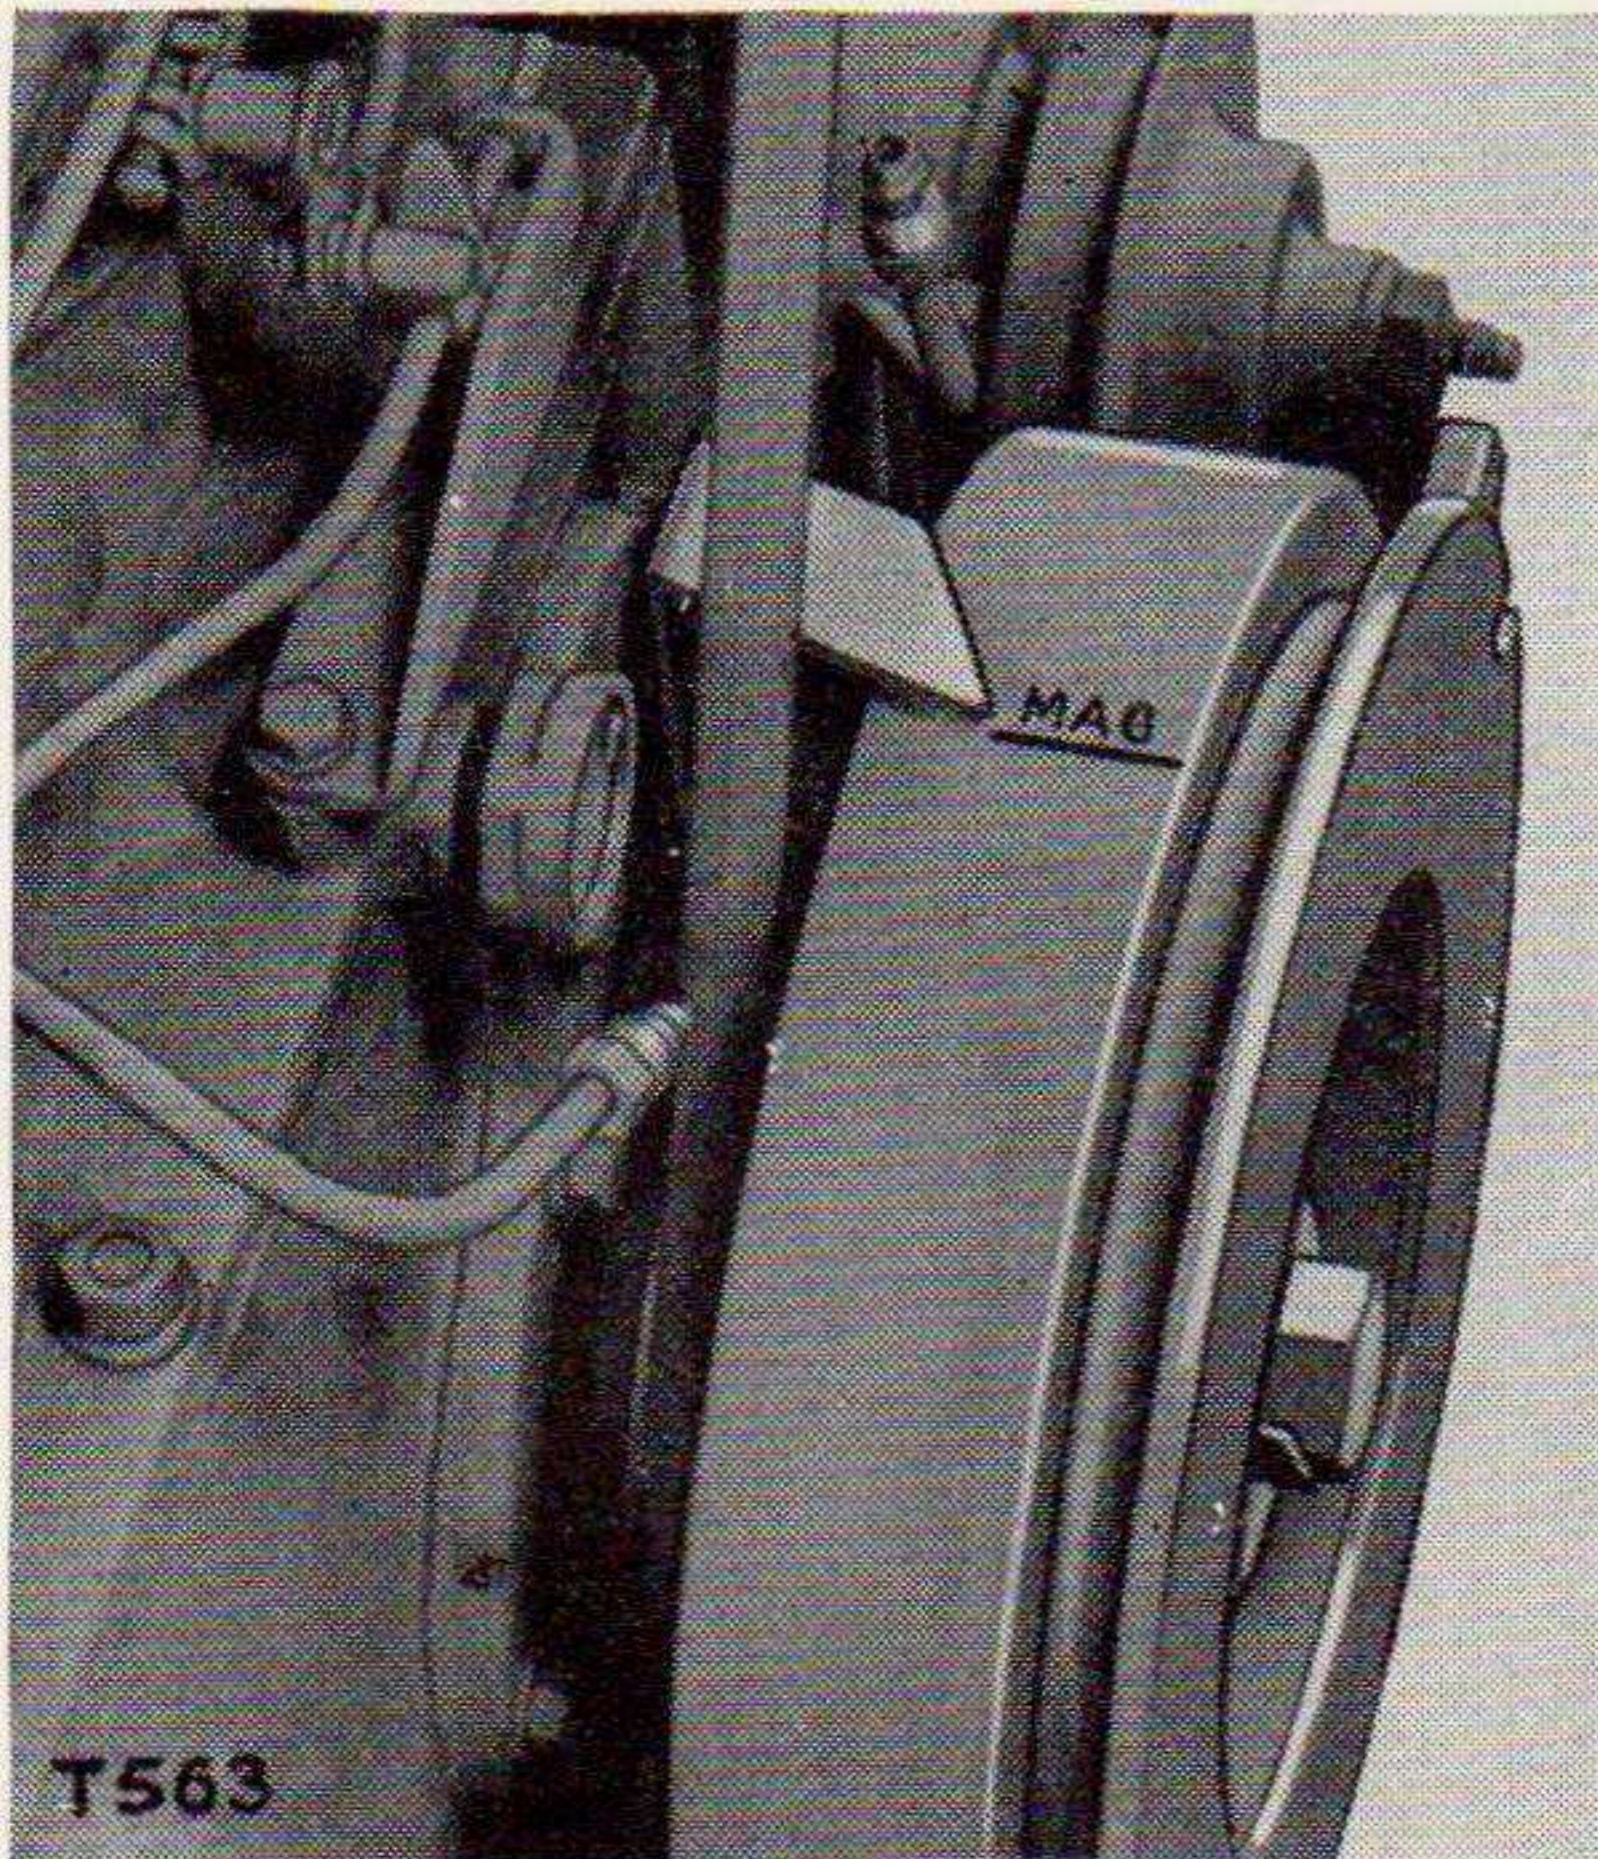

Figure 55. Alining "Mag" mark on flywheel with pointer.
(1) Locate the firing point of No. 1 cylinder. No. 1 cylinder is the cylinder on the same side as the magneto. Open the cylinder head drain cock on No. 1 cylinder and place a finger over the opening, rotate the flywheel in the normal direction until air is felt rushing out of the drain cock opening. This indicates that the piston is coming up on the compression stroke. Continue to rotate the flywheel until the "MAG" mark on it lines up with the pointer on the starting engine. (See fig. 55.)